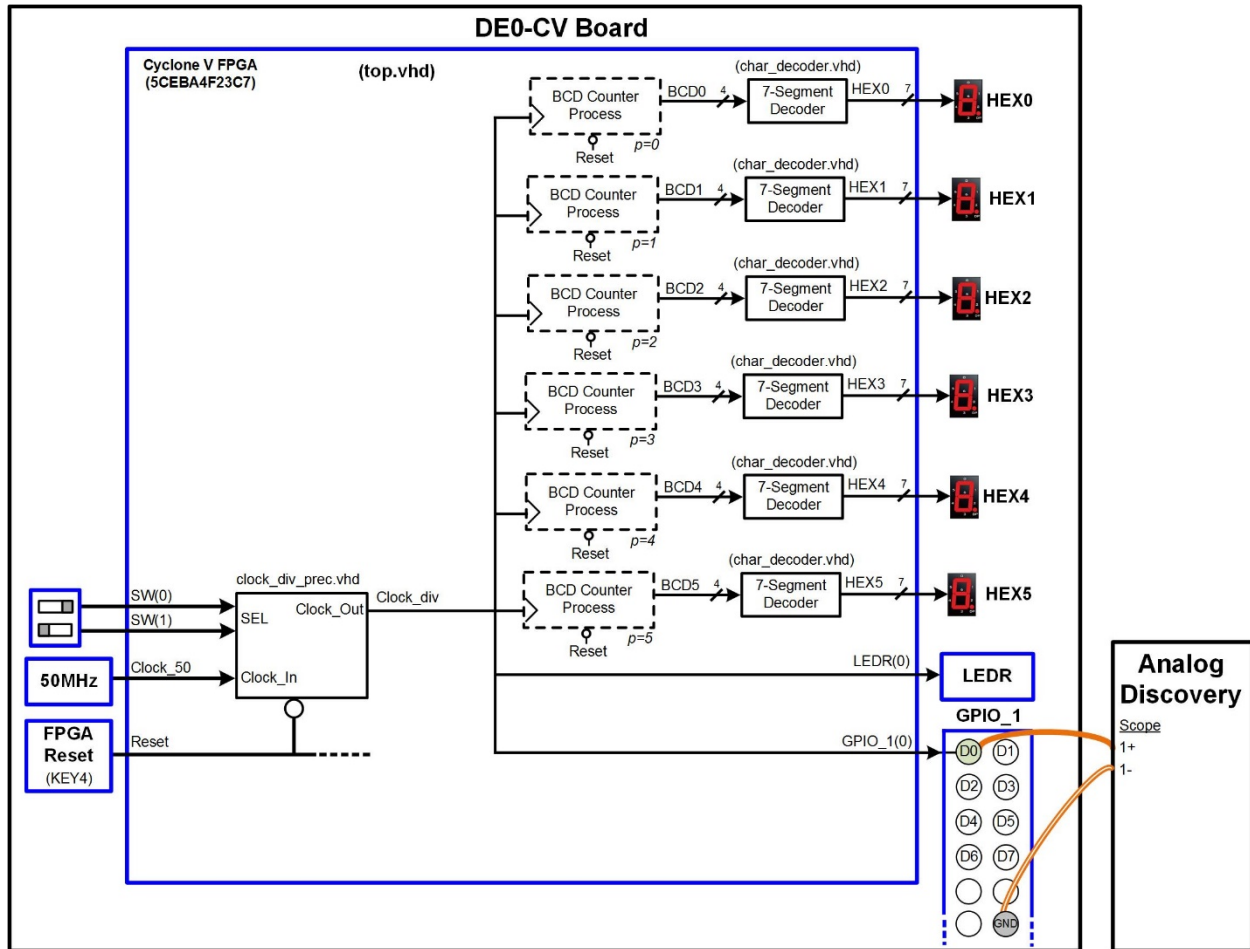

Figure 9.19
You are going to create a BCD counter that will drive the 6x HEX displays on the DE0-CV board. This system will count from 000000_{10} to 999999_{10} and then roll over. Note that the symbols are in decimal, not hexadecimal. You will be using *binary coded decimal* to implement the counter. Each symbol in the counter will be driven by its own process through its own *char_decoder.vhd* sub-system. You will also be creating a new *precision* clock divider (*clock_div_prec.vhd*) to slow down the incoming 50 MHz in order to clock the BCD counter at a slower rate. This new clock divider will allow the system to be clocked at frequencies of 1 Hz, 10 Hz, 100 Hz, and 1 kHz. The divided down clock will be observed on LEDR(0) and GPIO_1(0). To verify that the clock divider is producing the correct frequencies, the Analog Discovery's oscilloscope tool will be used to measure the clock on GPIO_1(0). Figure 9.19 shows a block diagram of the system in this exercise.
Configure SW(1) and SW(0) to output the 1 kHz clock rate. Now you are going to use the oscilloscope within the Analog Discovery to verify the frequency of Clock_Div on the GPIO_1(0) pin. An *oscilloscope* is an instrument that displays an electrical signal graphically. It is one of the most commonly used instruments to debug electrical circuits. The Analog Discovery contains two oscilloscope channels. Each channel has two wires (1+/1- and 2+/2-). The - channels will always be connected to ground for the exercises in this manual. Connect the probe wire labeled 1+ to the GPIO_1(0) pin on the GPIO_1 header. Connect the probe wire labeled 1- to a GND pin on the GPIO_1 header. Refer to Figure 9.19 for the pin locations. Plug in the Analog Discovery to your computer using the USB cable. Launch the Waveforms application.